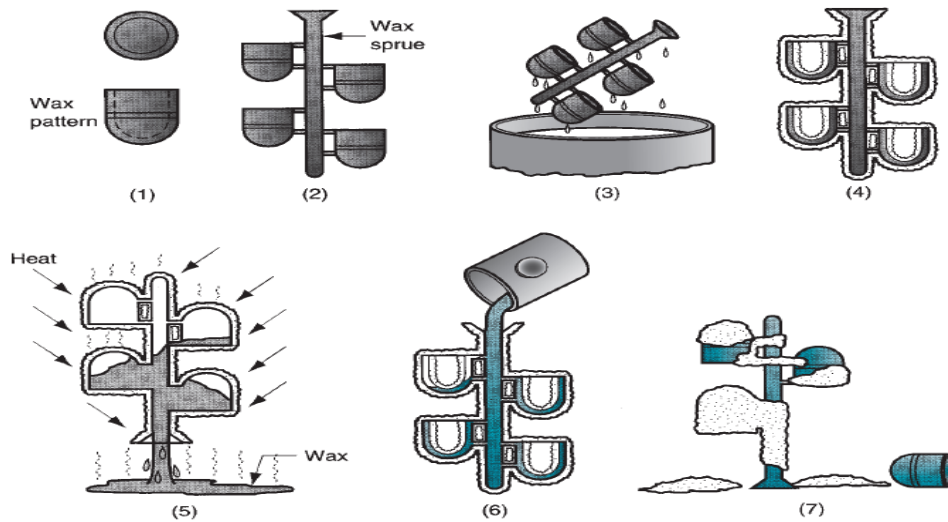

Fig Q6 : Manufacturing Process
- b) What manufacturing process is illustrated in Fig Q6 below. Give a brief description of the different stages as illustrated explaining why all stages are important. [12]